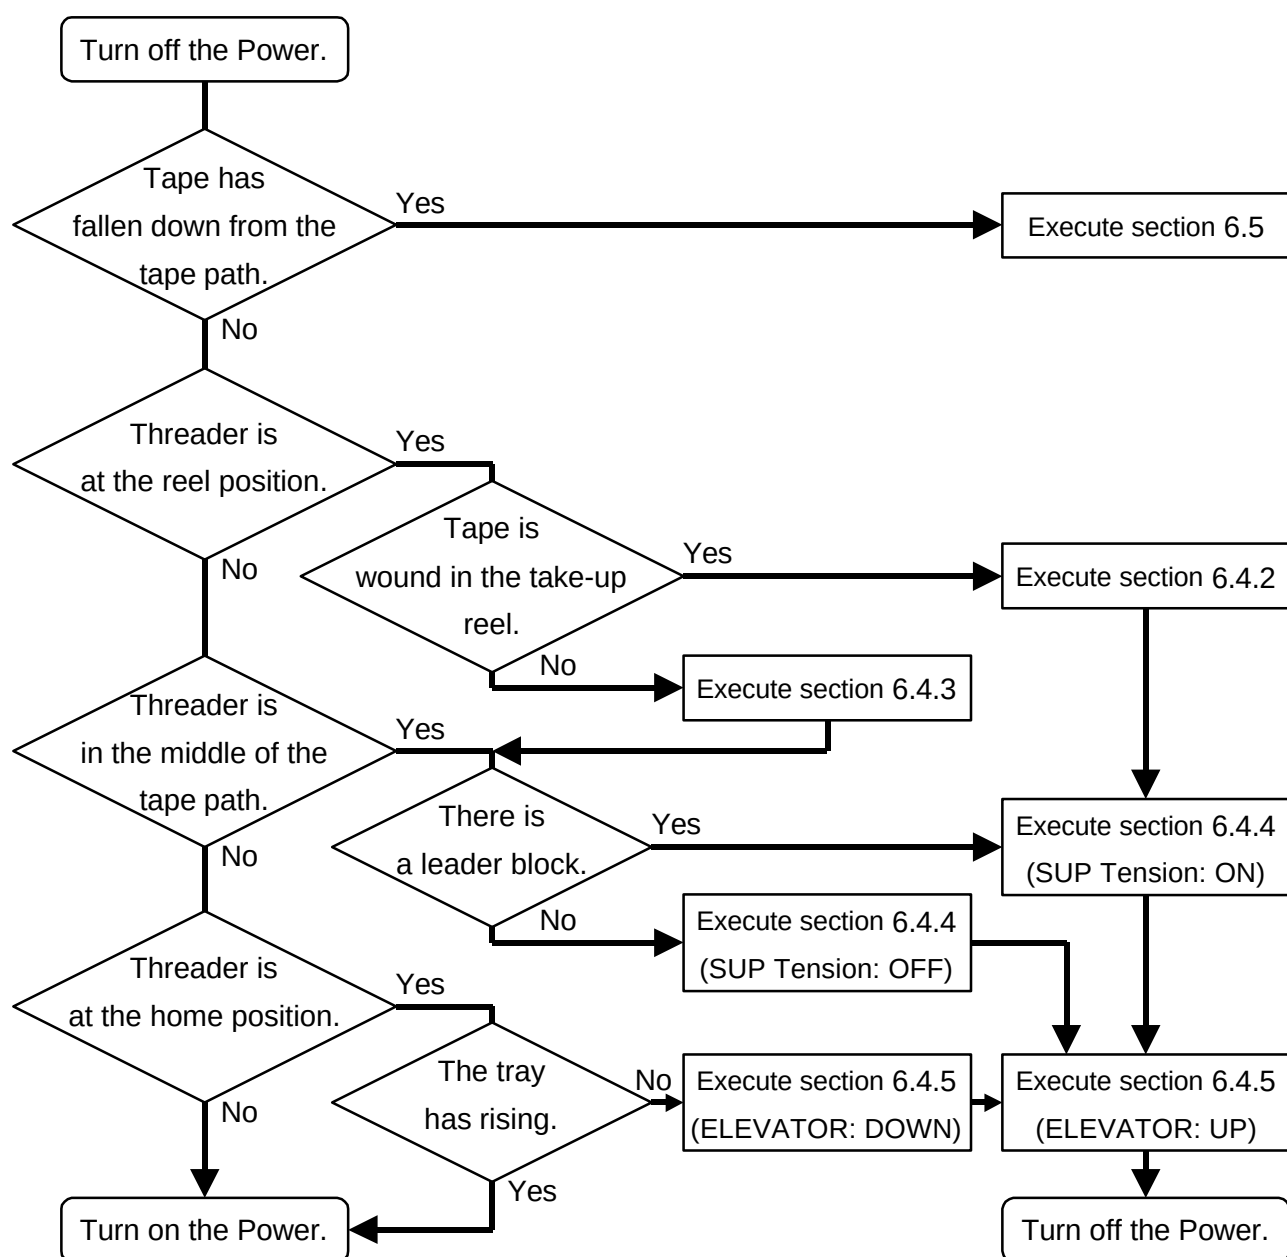

Figure 6-6 Flowchart of Unloading by Electric Operation
When the tape position is determined, select the procedure according to the flowchart in Figure 6-6 and execute the operation.
When executing the next section (6.4.4) continuously, check the flowchart in Figure 6-6. If the conditions are satisfied, the operation can be started from item 9) in section 6.4.4.
When executing the next section (6.4.5) continuously, check the flowchart in Figure 6-6. If the conditions are satisfied, the operation can be started from item 9) in section 6.4.5.